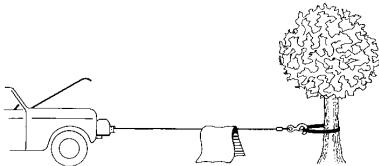

Figure 4
9. Lay a heavy blanket or jacket over the wire rope near the hook end when pulling heavy loads (Figure 4). If a wire rope failure should occur, the cloth will act as a damper and help prevent the rope from whipping. Raise the hood of the vehicle for added safety.